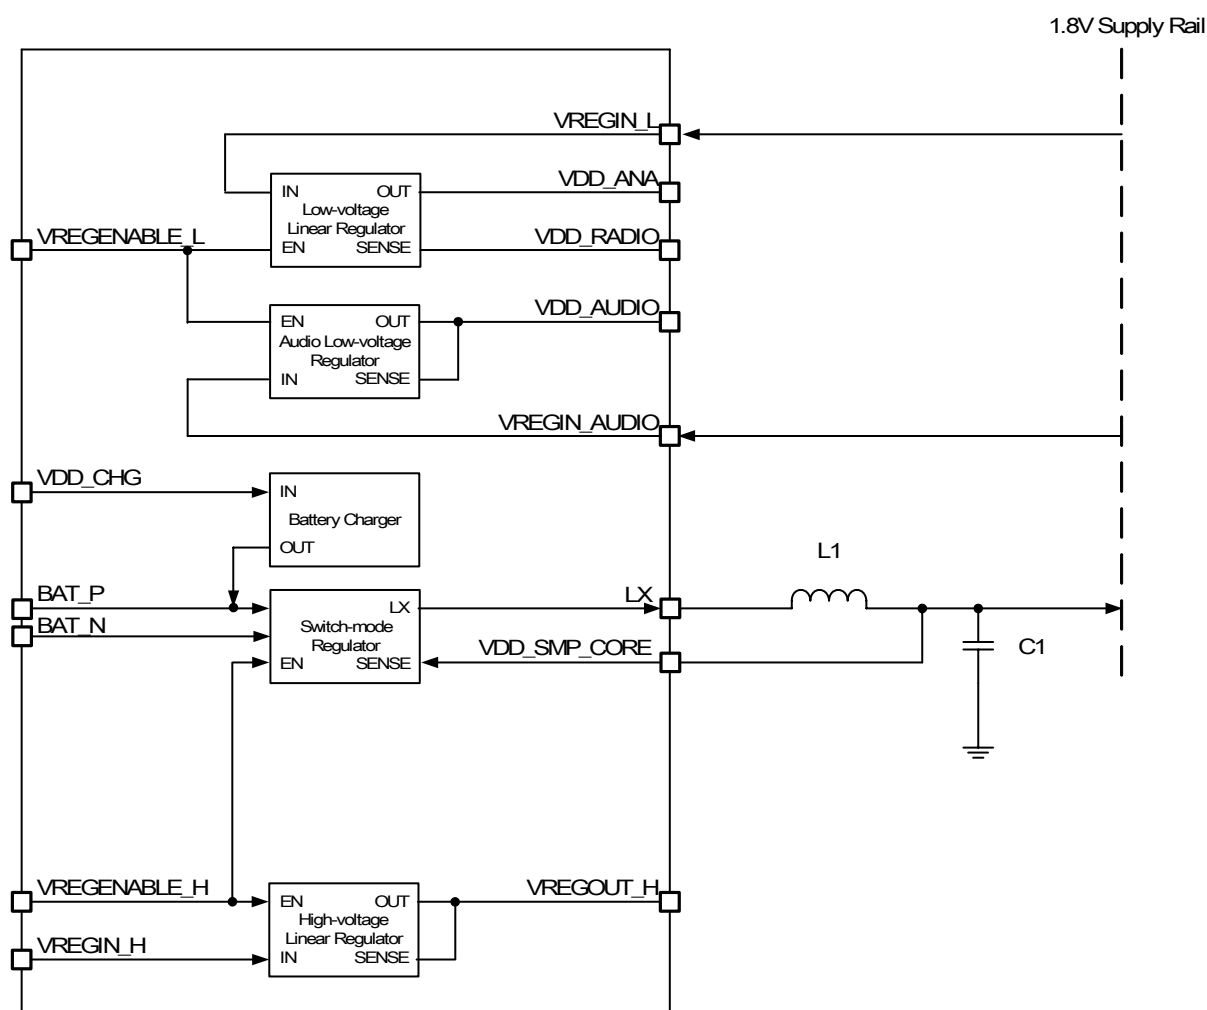

Figure 11.1: Voltage Regulator Configuration
- A high-voltage rail running the switch-mode regulator and the low-voltage regulators in series, as Figure 11.1 shows